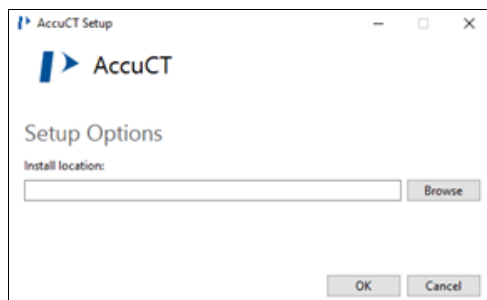

Figure 10.
- 3 To change the location of the installation from the default, click the **Options** button. The **Setup Options** window displays (see Figure 10). Click the **Browse** button, navigate to the desired install location, and click the **OK** button.